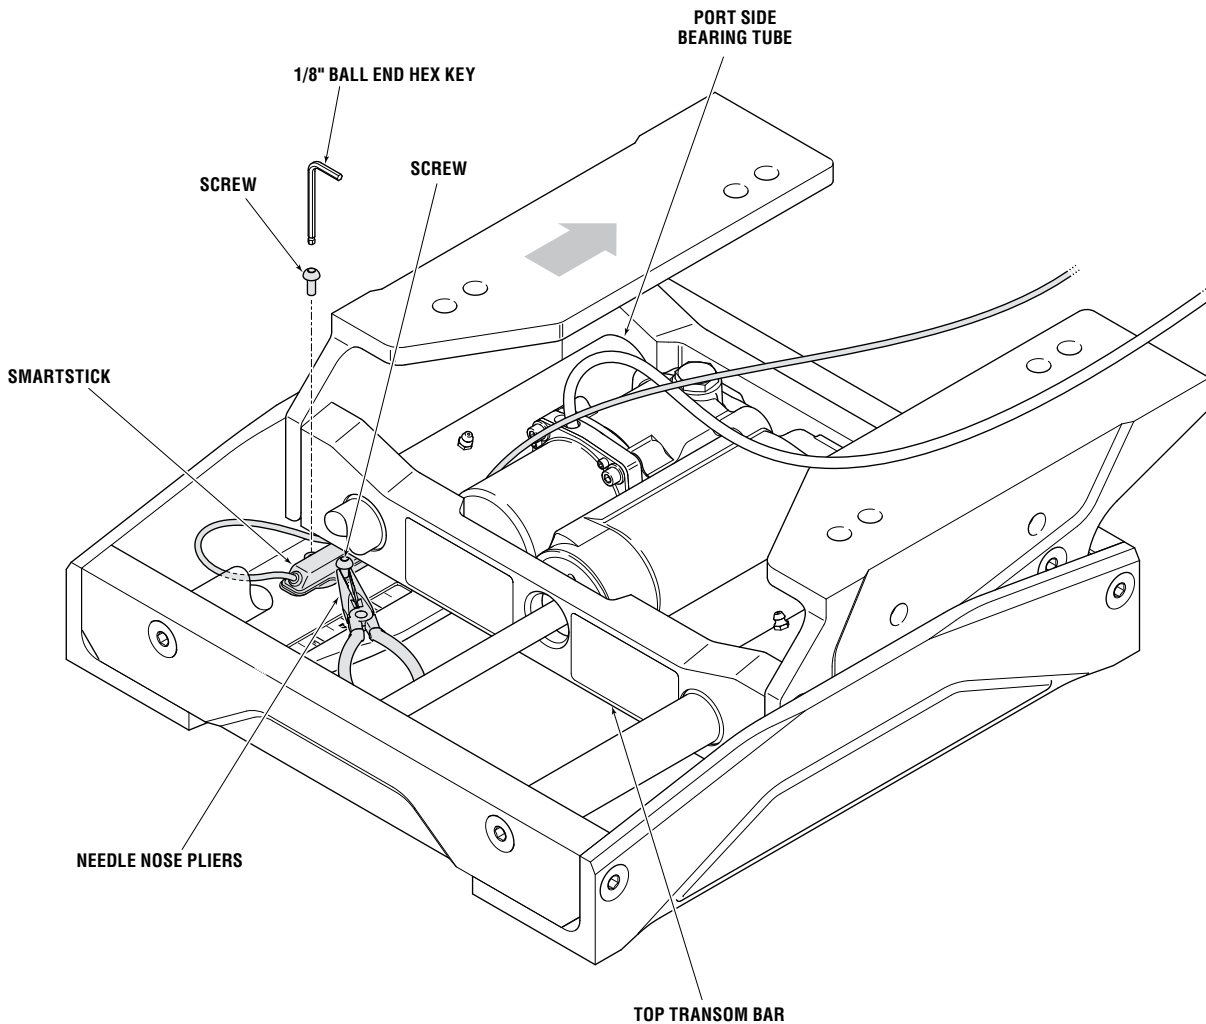

Figure 2. Installing top Smartstick screws.
5. Route the Smartstick harness to the port side of the Smartstick through the gap between the engine bracket and the top transom bar as shown in figure 2.